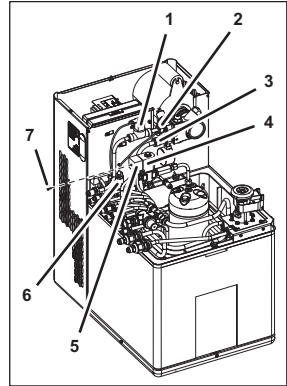

Figure 64
1. Disconnect the plug (Figure 64/5) of the solenoid valve (Figure 64/4) by removing the fastening bolt (Figure 64/7).
2. Disconnect the electrical cables from the water inlet valve (Figure 64/1).
3. Disconnect the Water-IN line from the coupling (Figure 64/2).
4. Disconnect the electrical cables from the CO₂ pressure switch (Figure 64/6).
5. Disconnect the connecting line from the carbonator pump to the pre-cooling coil from the coupling (Figure 64/3).
28. Attach the connecting line from the carbonator pump to the pre-cooling coil to the coupling (Figure 64/3).
29. Connect the electrical cables to the CO₂ pressure switch (Figure 64/6).
30. Attach the Water-IN line to the coupling (Figure 64/2).
31. Connect the electrical cables to the water inlet valve (Figure 64/1).
32. Attach the plug (Figure 64/5) of the solenoid valve (Figure 64/4) using the fastening bolt (Figure 64/7).